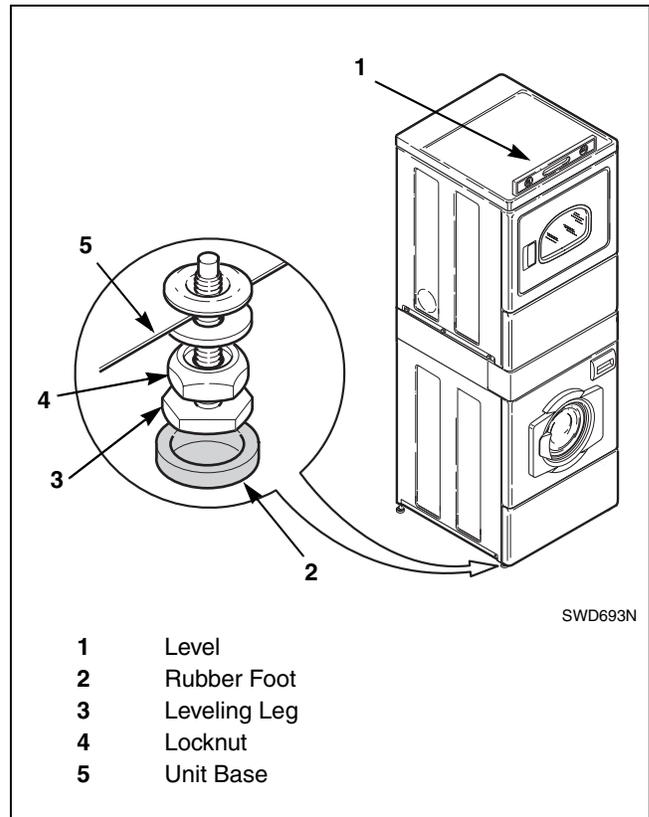

Figure 20
**NOTE: Level must rest on raised portion of top panel. Refer to *Figure 20*.**
Place rubber feet (supplied in accessories bag) on all four leveling legs. Refer to *Figure 20*.